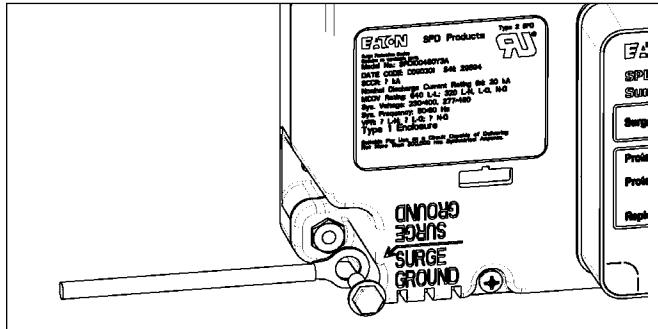

Figure 11. Ground connection
7. Connect the system ground wire (green) to the SPD's surge ground connection using a ring terminal suitable for use with a #10 fastener and a #10-32 x 3/8" fastener (customer supplied). Tighten the surge ground connection to 4.1 N·m (36 in-lb). If the system uses an isolated ground, connect the isolated ground wire to surge ground. There are two surge ground connection points provided on the SPD. Connect only one of them. See Figure 11.
6. Connect the system ground wire (green) to the SPD's surge ground connection using a ring terminal suitable for use with a #10 fastener and #10-32 x 3/8" fastener (customer supplied). Tighten the surge ground connection to 4.1 N·m (36 in-lb). If the system uses an isolated ground, connect the isolated ground wire to surge ground. There are two surge ground connection points provided on the SPD. Connect **only one** of them. See Figure 11.